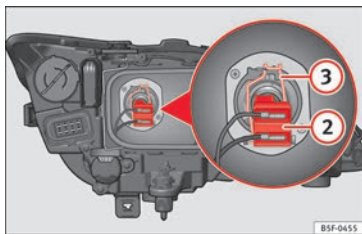

Fig. 103 Dipped beam headlights.
- Remove connector » **Fig. 103 ②** from the bulb.
- Unclip the retainer spring » **Fig. 103 ③** pressing inwards to the right.